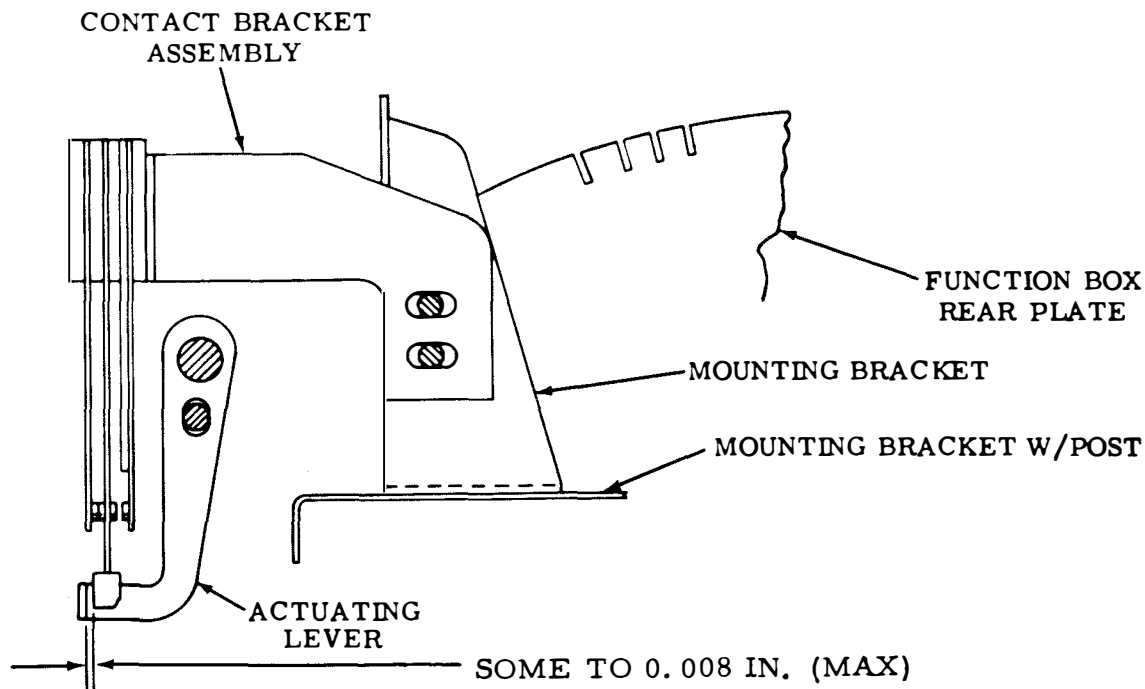

Figure 6-178. Auxiliary Contact Assembly - Rear View
(4) Auxiliary Contact Assembly. Adjust as follows:
- (a) Refer to figure 6-178.